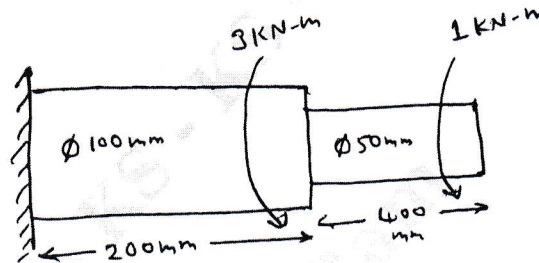

Fig Q6(b)
b. A solid stepped bar of circular C/S as in figure is subjected to torque as shown in Fig Q6(b). Determine angle of twist and shear stresses in bar $E = 2 \times 10^5\text{N/mm}^2$, $G = 7 \times 10^4\text{N/mm}^2$.